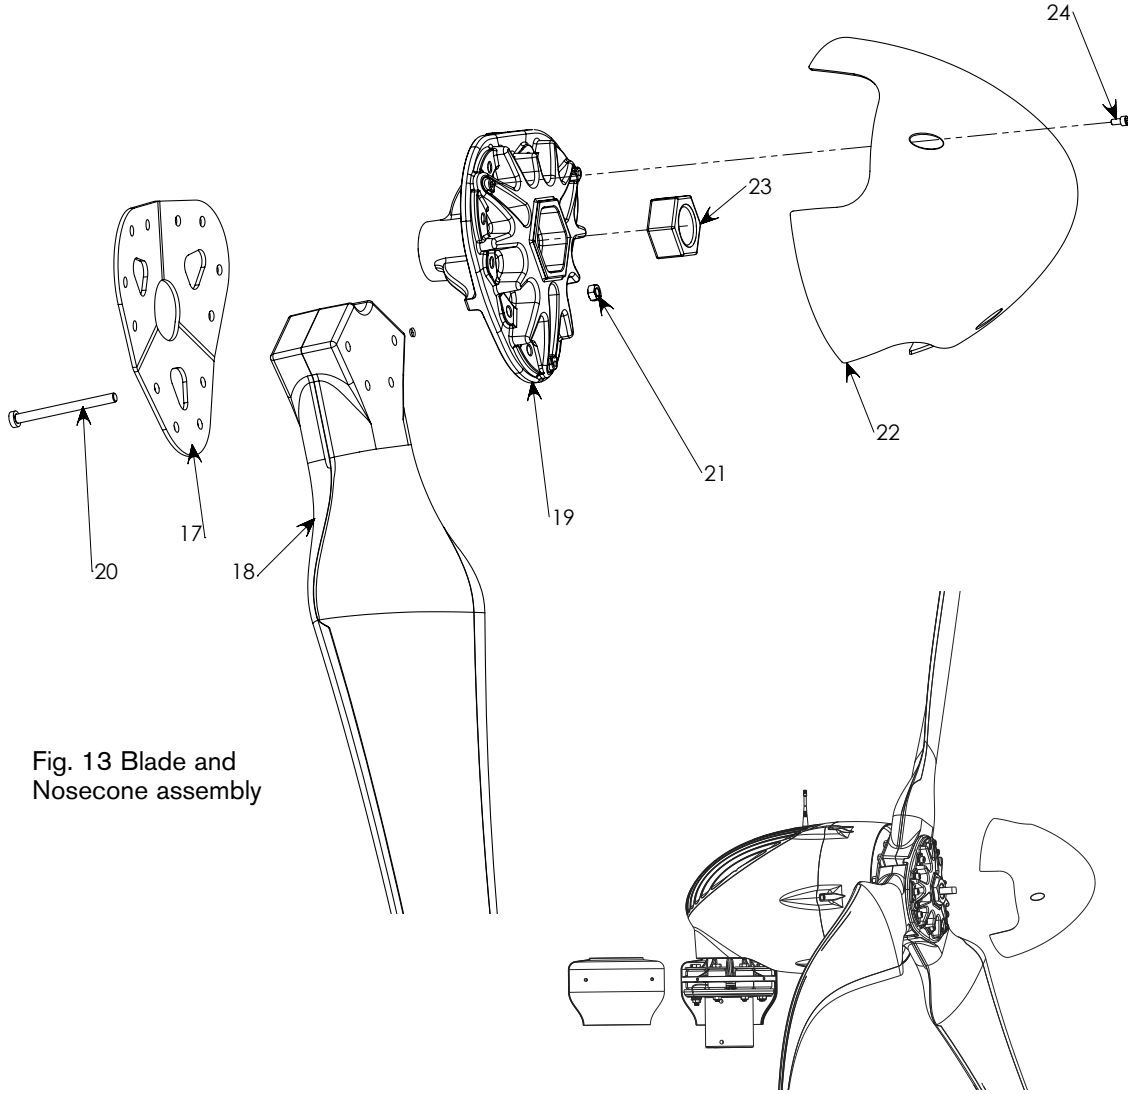

Fig. 13 Blade and Nosecone assembly
- Install the bolts by passing the bolt through the BLADE PLATE and AWAY from the NACELLE as shown in **Fig. 13**.